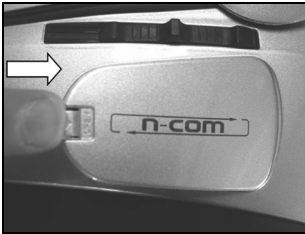

Fig. 1
- Remove the “N-Com” protection plate located on the helmet shell (Fig. 1) and open the helmet chin guard (flip up helmets).